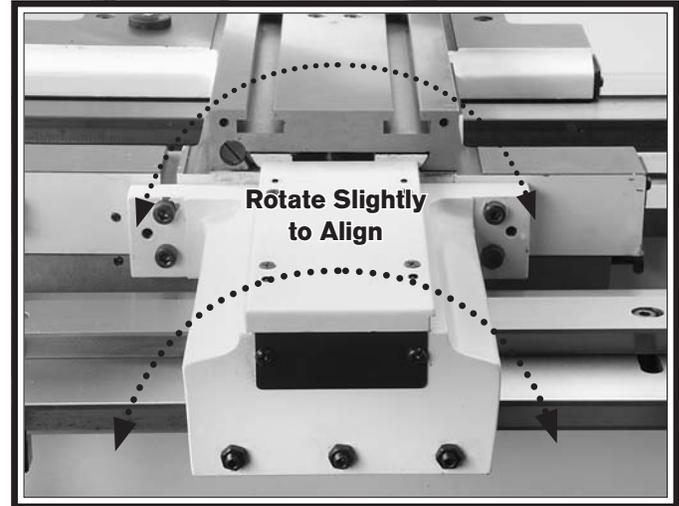

Figure 21. Parallelism correction.
35. Loosen the four mounting cap screws and rotate the taper attachment left or right to correct the alignment (see **Figure 21**).